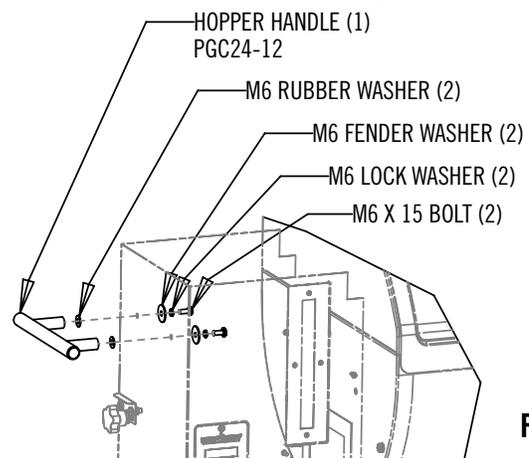

Fig. 4
1. Install hopper handle as shown in Fig. 4.